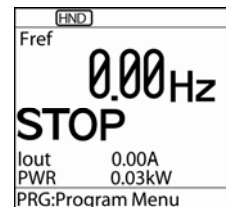

Figure 4.2 Display of the LCD Monitor after Power-ON
- (1) Check that the LCD monitor displays 0.00 Hz (indicating that the reference frequency is 0 Hz) that is blinking. (See Figure 4.2.)